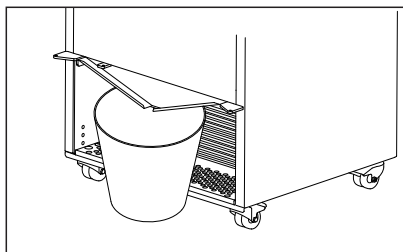

fig. 10
3. Position a bucket or a suitable container under the defrost water drain. /see fig 10)